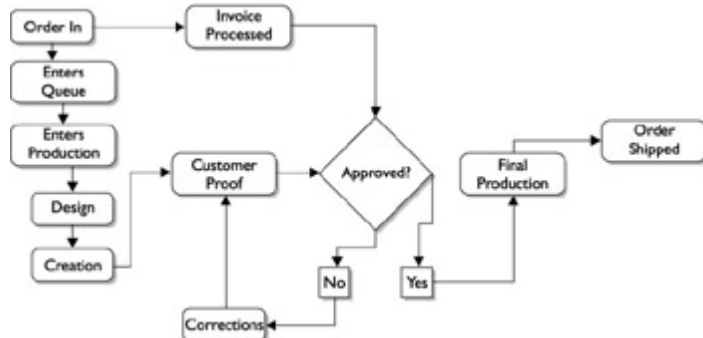

Figure 8-2: Process flow charts illustrate how a system process unfolds.
- **System or process flow charts** These flow charts illustrate the flow of a process through a system, such as a project change request through the change control system, or work authorization through a quality control process. A process flow chart does not have to be limited to the project management activities; a process flow chart could demonstrate how a manufacturer creates, packages, and ships the product to the customer as seen in Figure 8-2.